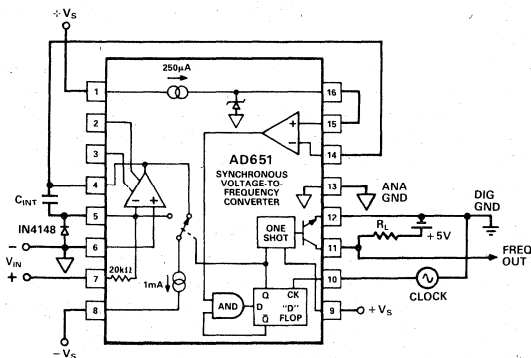

Figure 6. Standard V/F Connection for Positive Input Voltage with Dual Supply
- Maximum Input Voltage (Figure 6) . . . . . 36V
Figure 6 shows the AD651 connection scheme for the traditional dual supply, positive input mode of operation. The  $\pm V_S$  range is from  $\pm 6$  to  $\pm 18$  volts. When  $+V_S$  is lower than 9 volts, it is necessary to shunt pin 16 to pin 13 in order to maintain a minimum of 2 volts between pin 16 and  $+V_S$ . Pin 16 may be shorted directly to pin 13, or an external resistor may be shunted between the two pins. Shorting these pins will make analog ground the comparator reference; in this case pins 16 and 15 are tied directly to pin 13. If an external resistor is used then the comparator reference will be set by the  $250\mu A$  current and this resistor.